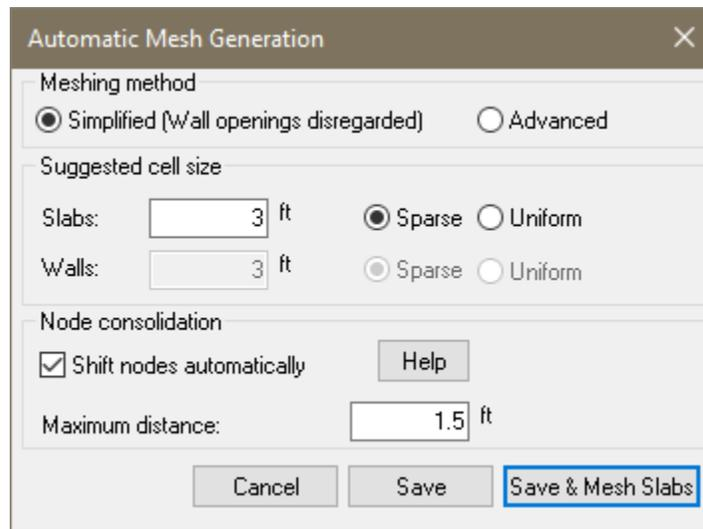

Figure 3-2
- Go to *Analysis* → *Meshing* and click on the *Mesh Generation*  icon. This will bring up the Automatic Mesh Generation window as shown in **FIGURE 3-2**.